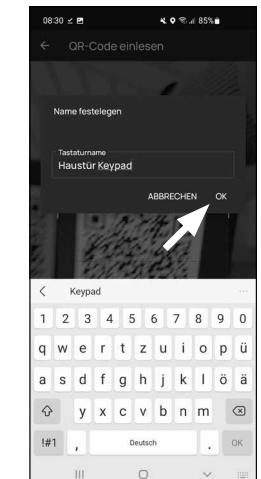

Fig. 10
- 13 In the following window, you will be prompted to assign a name for the keypad. Where several cylinders and secuENTRY components are used, it is recommended to name the keypad in such a way that you can directly identify what it is and where the keypad is located or attached. In the example in these instructions, the keypad is titled "Front door keypad". Confirm the name with "OK" (Fig. 10).